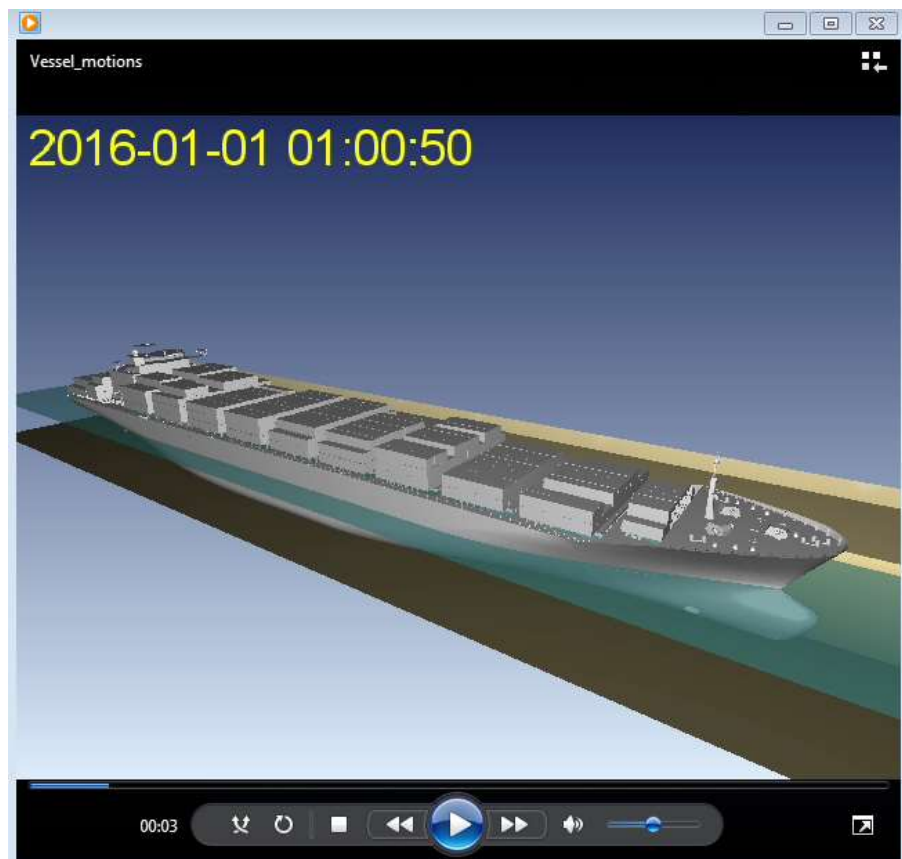

Figure 2-42 Recorded animation as shown in Windows Media Player
16. The resulting animation file **Vessel_Motions.avi** can now be shown in e.g. Windows Media Player as shown in Figure 2-42.